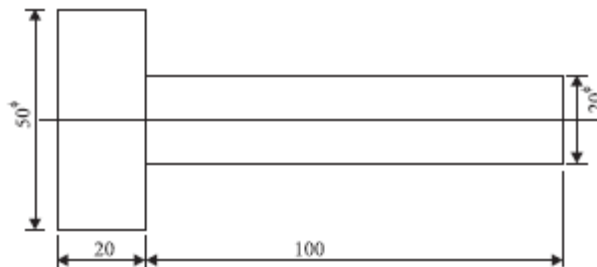

Fig. 5.8
- 8 150 components, as shown in Fig. 5.8 are to be made by upsetting a f 20 mm bar. Estimate the net weight, gross weight and length of f 20 mm bar required. The density of material may be taken as 7.86 gms/cc. (16) BT2